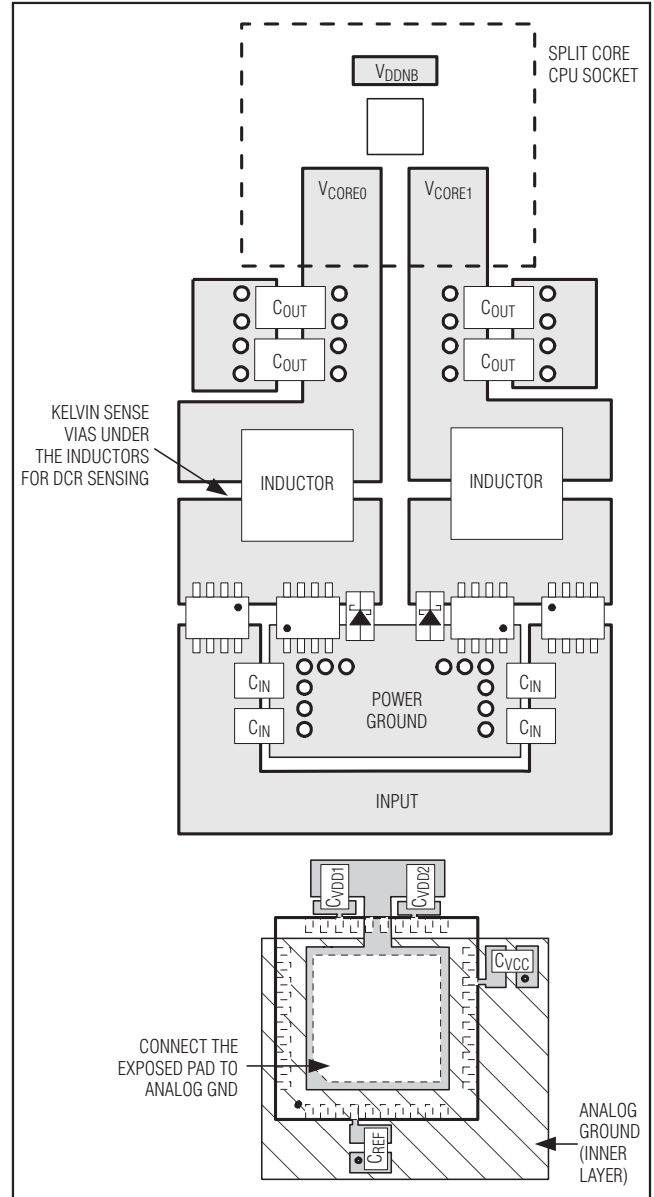

Figure 13. PCB Layout Example
Careful PCB layout is critical to achieve low switching losses and clean, stable operation. The switching power stage requires particular attention (Figure 13). If possible, mount all the power components on the top side of the board with their ground terminals flush against one another, and mount the controller and analog components on the bottom layer so the internal ground layers shield the analog components from any noise generated by the power components. Follow these guidelines for good PCB layout:
- 5) Connect the output power planes ( $V_{CORE}$  and system ground planes) directly to the output-filter capacitor positive and negative terminals with multiple vias. Place the entire DC-DC converter circuit as close to the CPU as is practical. Figure 13 is a PCB layout example.